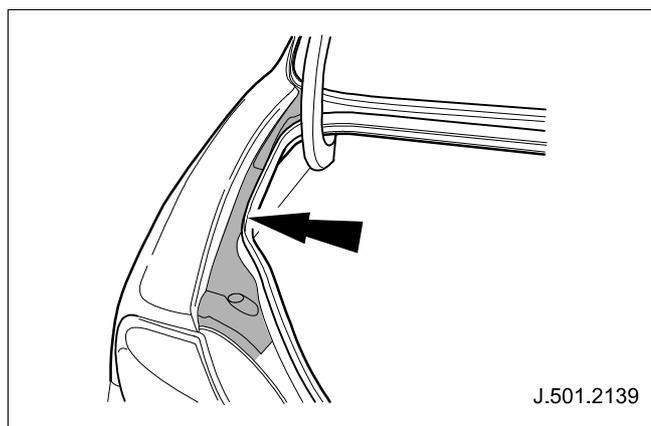

Fig. 25
- 4 Luggage compartment channel seams. (See Fig. 25)